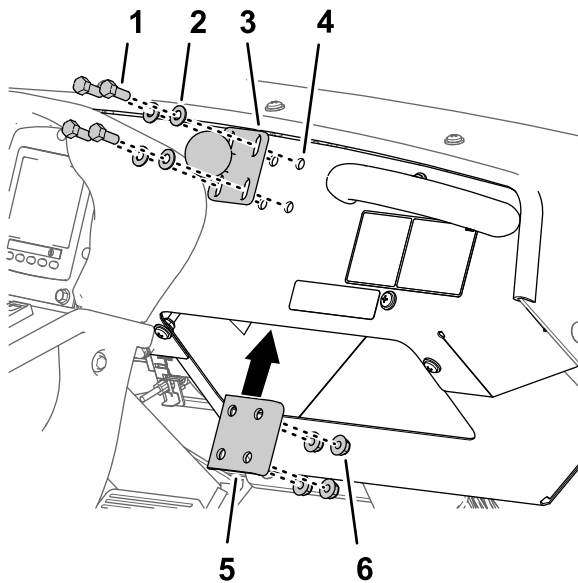

Figure 130
1. Assemble the ball-pivot mount to the dash with the 4 flange-head bolts (1/4 x 1-1/2 inch), stiffener plate, and flange locknut (1/4 inch) as shown in Figure 130.